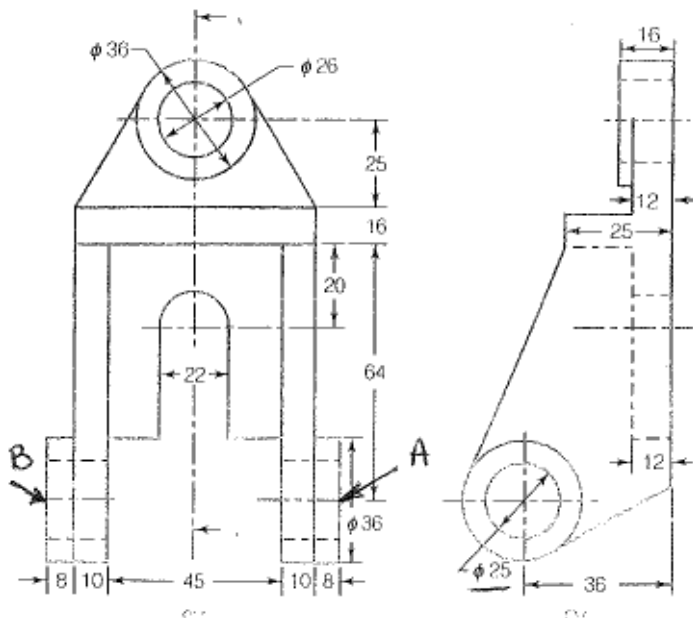

Fig. No. 1
11. Design a jig for drilling  $\Phi$  25 mm holes for a component shown in fig. no 1. 20
12. Design a milling fixture to mill at face A and B for a component shown in fig. no 1.